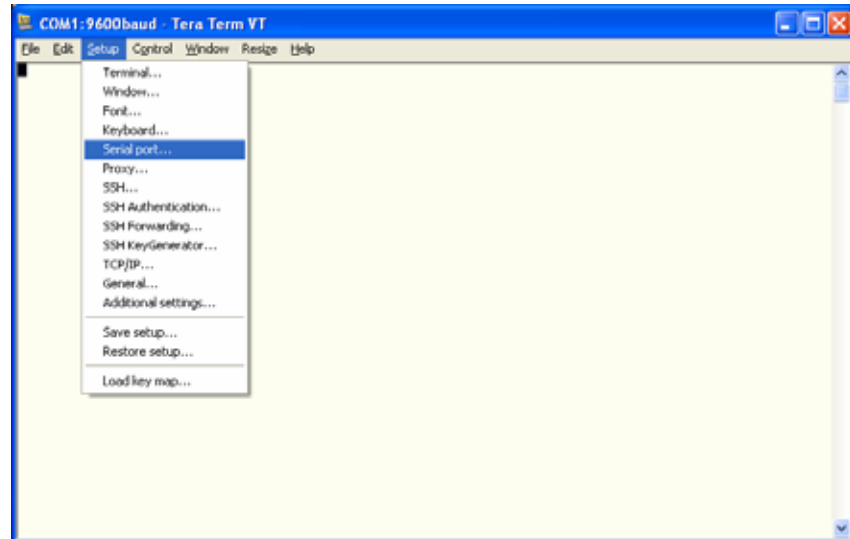

Figure 6-17: Selecting the Serial Port Setup
19. Select **S**etup, then click **S**erial port (Figure 6-17).